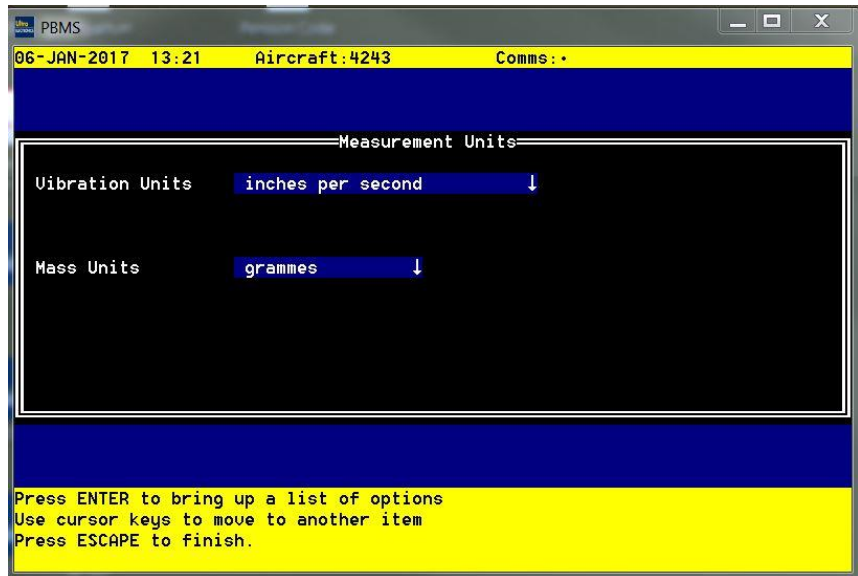

Figure 2-13 Measurement Units Screen
(2) Measurement Units
- (a) Select 'Measurement Units' from the 'Set-up Menu' and press <ENTER>. The Measurement Units will be shown on the PBMS Terminal display (Refer to Figure 2-13).